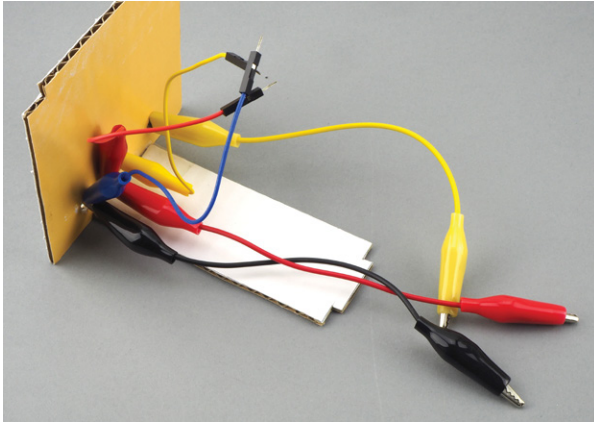

Figure 6-14: Attaching the bottom card to the front card
11. Now slot the bottom piece of cardboard into the front piece and fix it in place using adhesive tape (Figure 6-14).